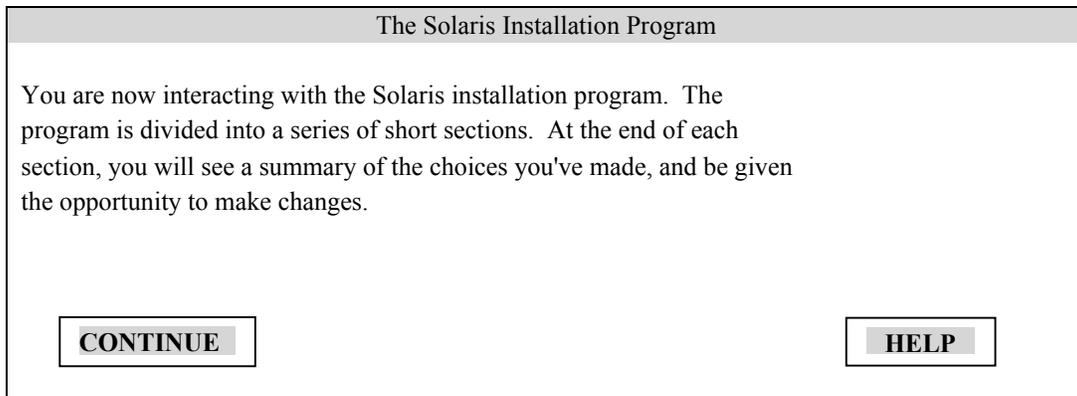

Figure 3-23 Solaris Installation Program Screen
17. A window titled "The Solaris Installation Program" (Figure 3-23) will be displayed.